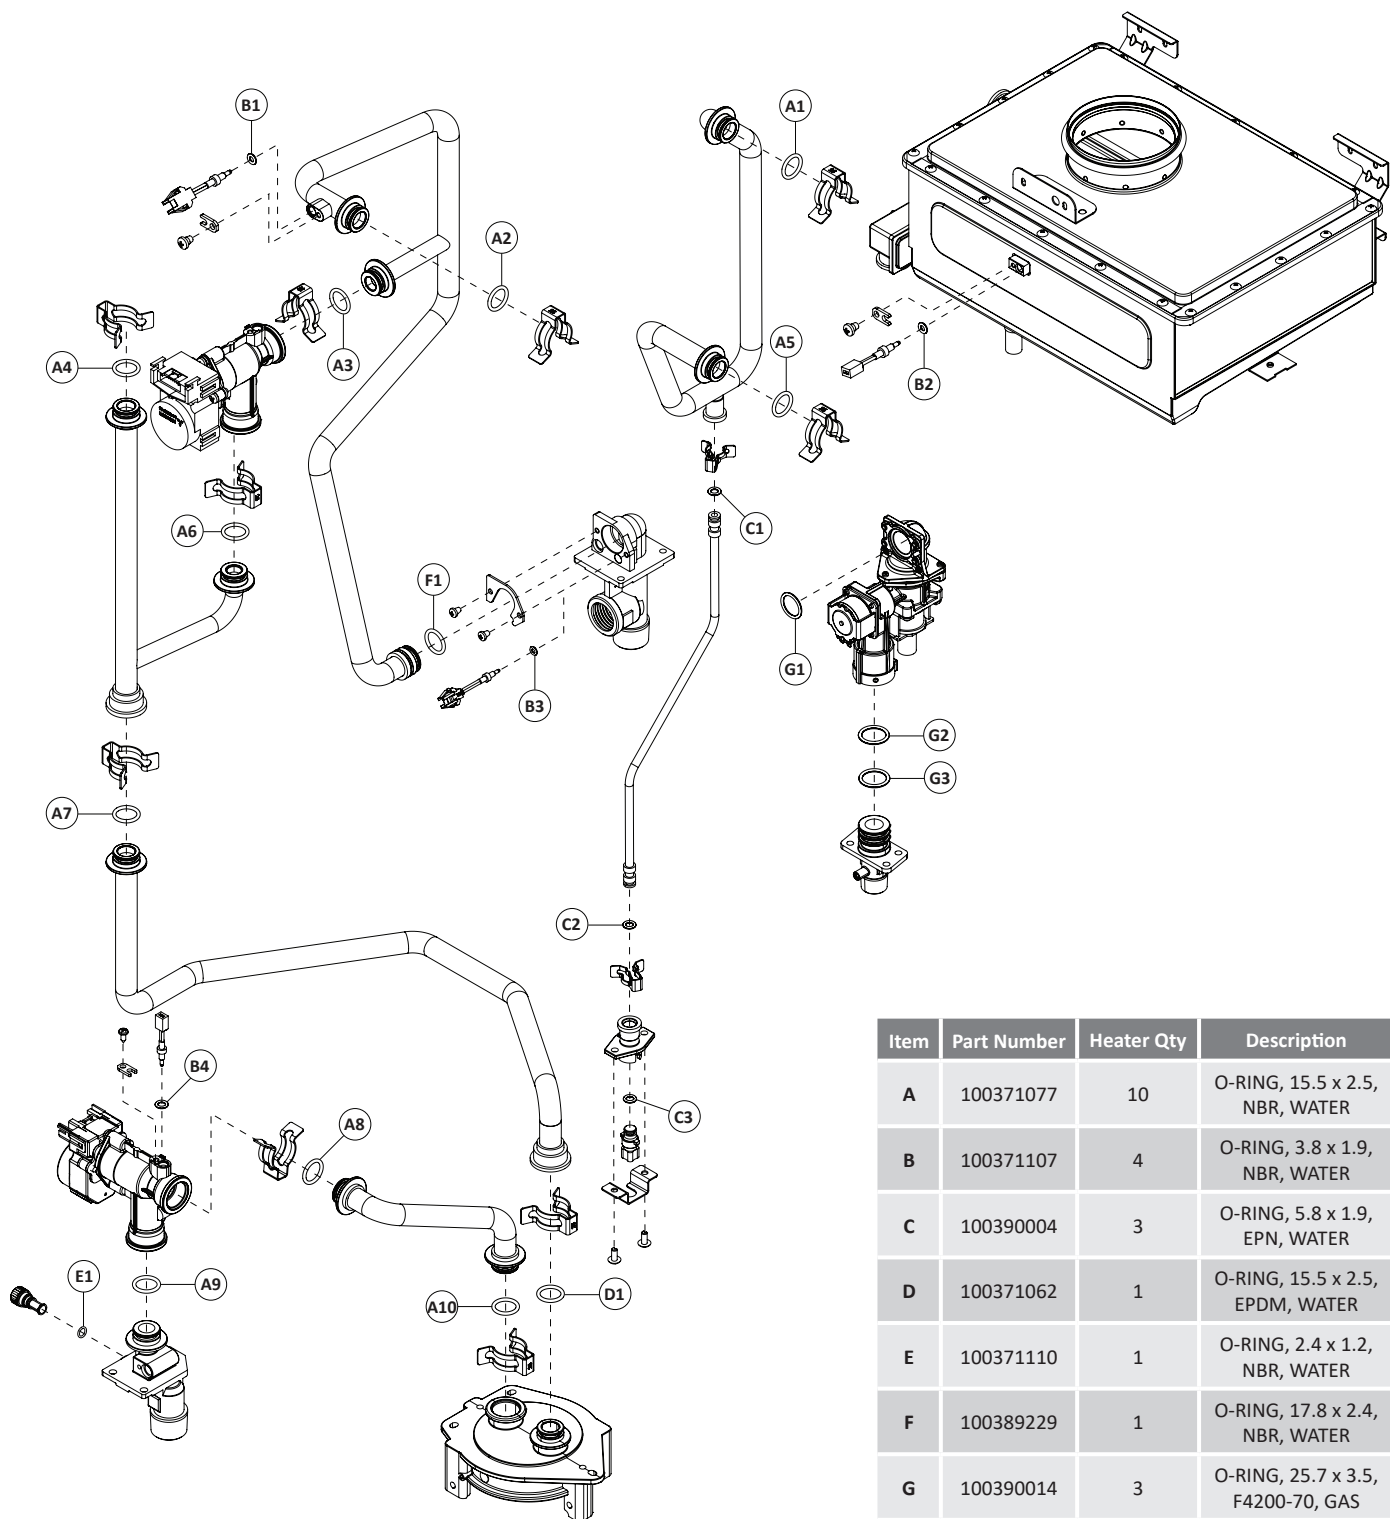

Figure 214 - O-ring reference guide
**NOTICE:** Use the parts diagram (Figure 214) and the table provided on page 115 to reference the location of O-rings provided in the kit.